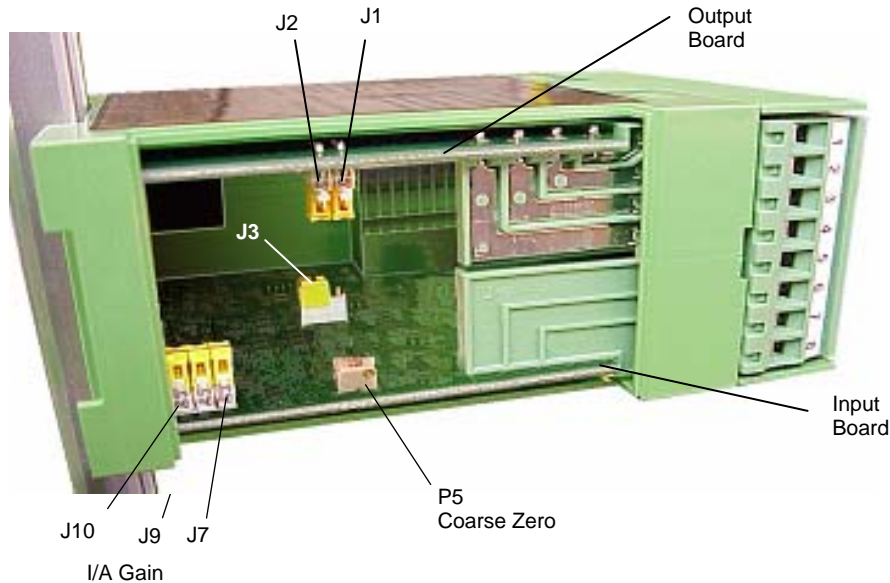

Figure 4 - Internal Jumper-switches and Potentiometer Location
A number of operational characteristics can be configured prior to mounting or wiring the amplifier. We recommend that you first familiarize yourself with the internal switch locations, settings, and potentiometers by opening the snap-on access cover. Figure 4 illustrates the location of configurable items on each of the printed circuit boards.
In addition to the Gain and Zero adjustable Potentiometers visible on the front of the unit, there is an adjustment you can make by removing the snap-off cover on the side of the amplifier. The adjustment is located on the input printed circuit board as shown in Figure 4. The following table provides you with a list of all Potentiometers, where they are located on the Classic Series DIN Rail input printed circuit board, and a description of their functions.
The Excitation Voltage is determined by the position of jumper switch J3. Refer to Figure 4 for Jumper-switch locations. The jumper default setting is J3 (1-2) for 5.00V excitation. Do not use 10V setting J3 (2-3) unless explicitly permitted by the load cell electrical specifications. Promptly verify the excitation voltage after power-up to avoid overdriving strain gages. Note that if there is no external load resistance, the voltage may rise to 6.4V, but will immediately regulate at 5.00V when the load cells are connected.
The group of jumper-switches that control the fixed gain of the Instrumentation Amplifier (IA) are located closest to the front left edge of the Input card. (Refer to Figure 4) The lowest gain ($A_v = 5$) occurs when all of the switches are in the 1-2 position. As switches are moved "away" (into position 2-3) from left to right, the gain progressively increases as described in following table:
The damped output for a tension indicator can be configured as either a +/- 2V output or a +/- 1mA output by changing the position of jumper-switch J1 located on the Output Card (Refer to Figure 4 for location). Voltage output is selected by setting J2 (1-2). Current output is selected when J2 (2-3). Note that different wiring terminals are employed for the signal return when configured for current or voltage.
The amount of damping for the meter output (intended to drive a tension indicator) can be configured by the position of jumper-switch J2 on the Output card (refer to Figure 4 for location information). Setting the jumper switch to J2 (1-2) sets the break frequency at 0.3 Hz. Setting the jumper switch to J2 (2-3), the break frequency setting is raised to 3.7 Hz